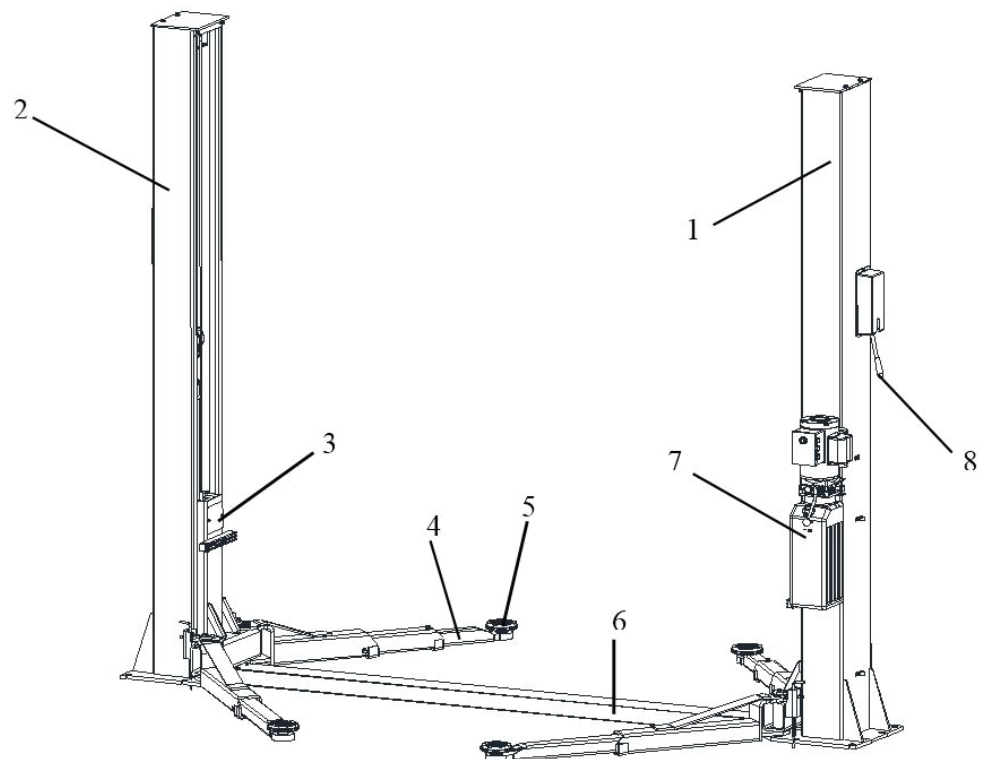

Figure 2 – Lift
As shown in figure 2, the lift is composed of two columns: power-side column (1) and off-side column (2), each equipped with a carriage (3) and a pair of lifting arms (4) with the adaptor (5) anchored to the ground by means of base plates of columns. The base plate (6) is used to protect routed lines between columns. Raising motion is carried out by pushing the lifting button on a power unit (7) which delivers the hydraulic fluid to cylinders inside the columns to act on the chain system to raise the lift.